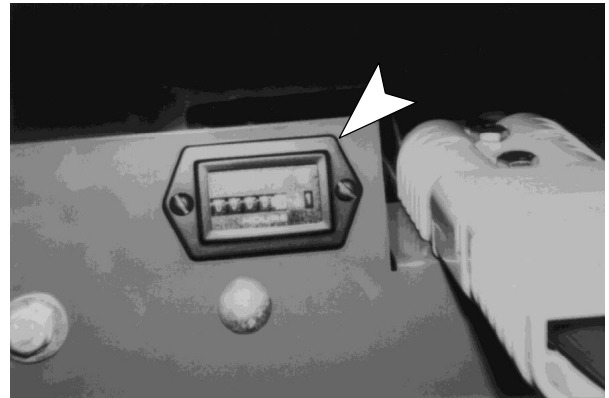

FIG. 12
1. Your machine has an hour meter located inside the battery compartment next to the machine connector (Figure 12).